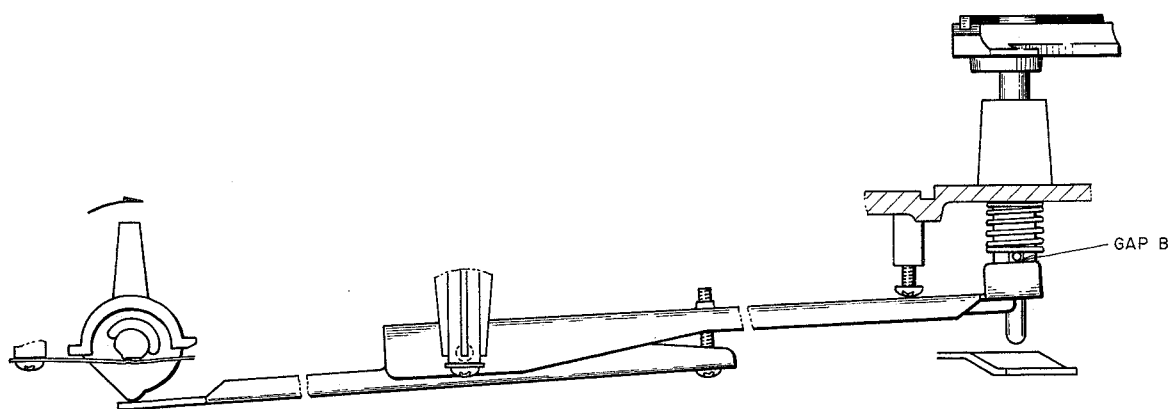

Fig. 16
2. Next operate the auto return (turn the main gear by hand) and raise the arm lifter. With the elevation control at ∇ , adjust screw (b) at exactly the point where the gap (B) between the shaft pin and the elevation lever (A) disappears. (Refer to Fig. 16).